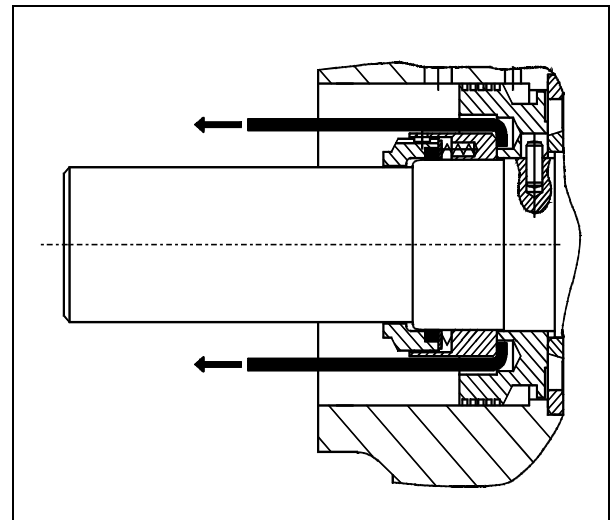

Figure 1: Dismantling the shaft seal
- Remove the sealing cover (44) together with the counter ring of the seal using two jacking screws.
- Pull off the part of the seal which is located on the shaft manually or by using two hooks as shown in Figure 1.